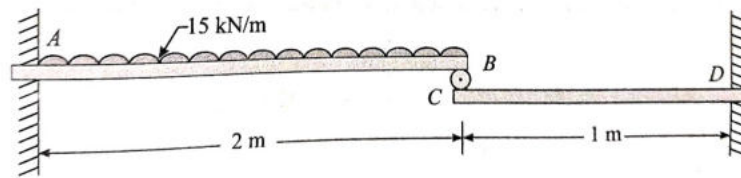

Figure 1.
1. A beam AB 2 m long and carrying a uniformly distributed load of 15 kN/m is resting over a similar beam CD 1 m long as shown in figure 1. Draw the shear force and Bending moment diagrams. [14M]